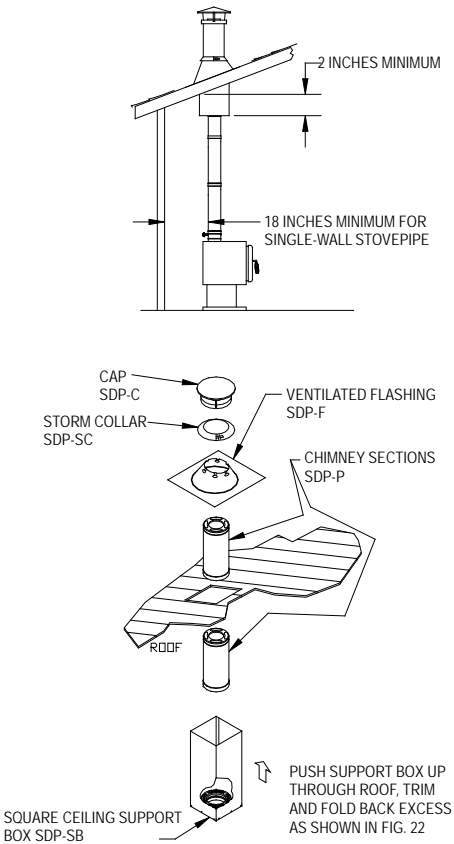

Figure 21
2. Cut Openings: Cut a roof opening directly above the appliances' flue outlet collar, just as in a Ceiling-Supported Installation (Steps 1 thru 5). If a separate ceiling and roof exists, as shown in *Figure 20*, (Low Attic), first cut and frame a ceiling opening as described in Ceiling-Supported Installations (Step 2). Refer to Table 2 for clearance and framing specifications. If it is desired to install through a cathedral ceiling (*Figure 21*), then the hole is cut in the roof.